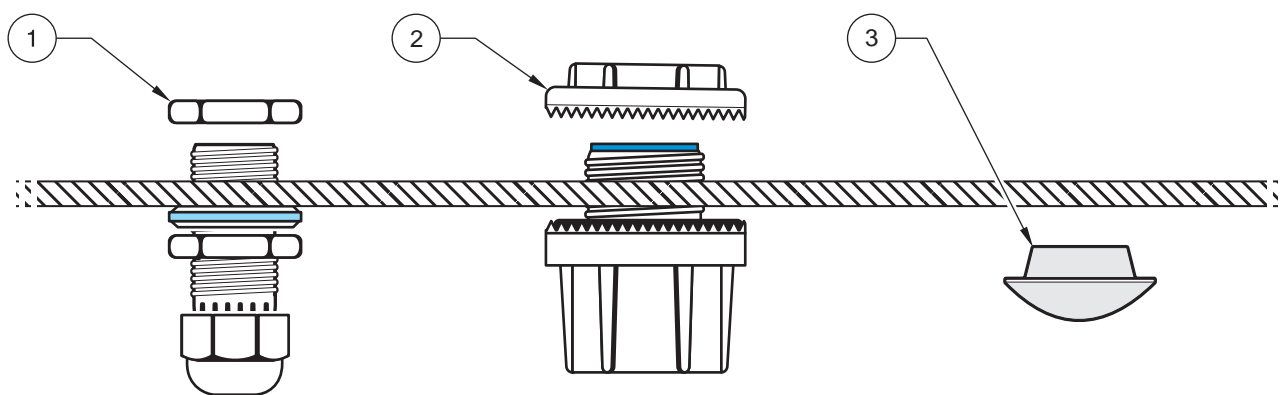

Figure 12 Using the Optional Strain Relief and Conduit Hole Sealing Plug
6. Pass the cable through conduit and a conduit hub or a strain relief fitting (Figure 12 on page 20) and an available access hole in the controller enclosure. Tighten the fitting.